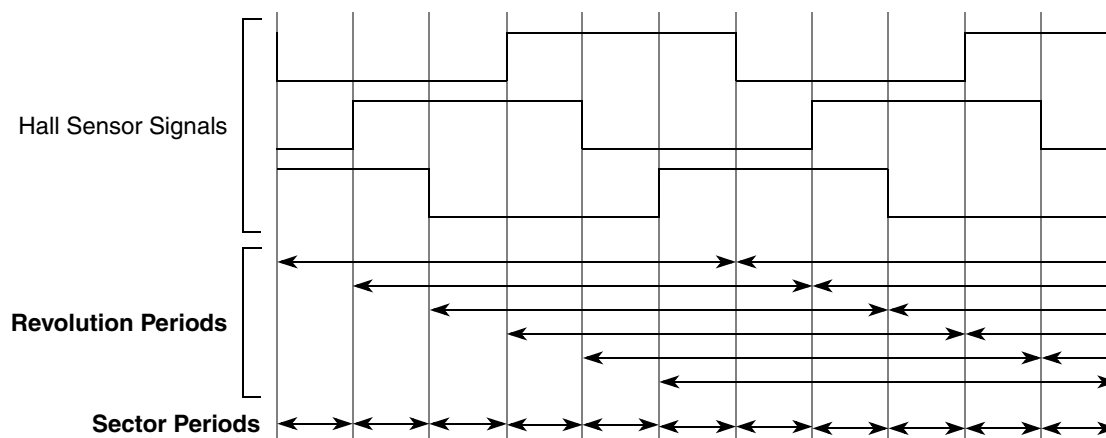

Figure 3. Measuring Revolution Period and Sector Period
- **Sector Period** - This parameter determines the TCR time between the last two changes of the Sector. The parameter value is updated each time the sector is changed. The Sector Period is measured from the last edge to the current edge; see Figure 3.